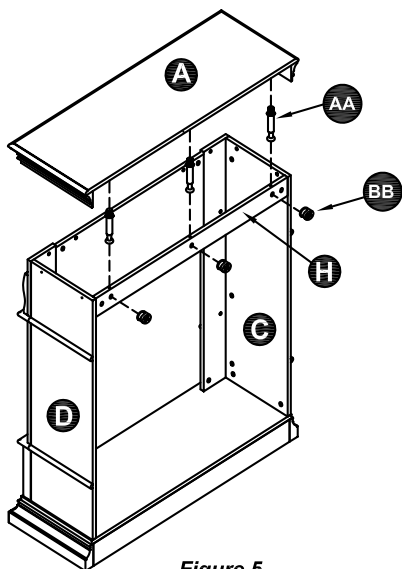

Figure 5
5. Flip the previously assembled frame and insert the cam Locks (BB) into the Back Crossbar (H). Screw the cam Dowels (AA) into the Top (A). Secure it by tightening the cam Locks (BB), as shown in Figure 5.